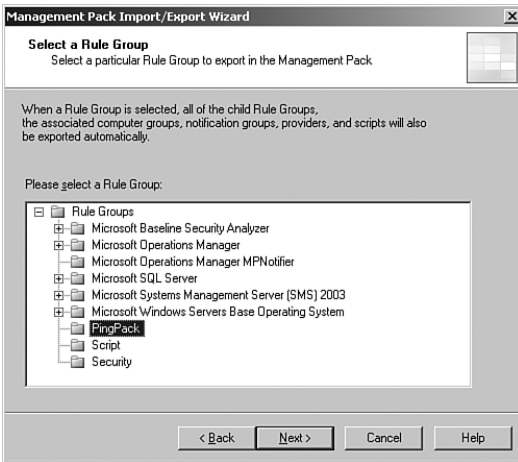

FIGURE 12.21 The Select a Rule Group screen in the Import/Export Wizard.
3. At the Select Rule Group dialog you can drill down to the management pack you want to back up. We will back up the PingPack management pack discussed in Chapter 20, “Developing Management Packs.” Figure 12.21 shows the PingPack rule group selected for backup.